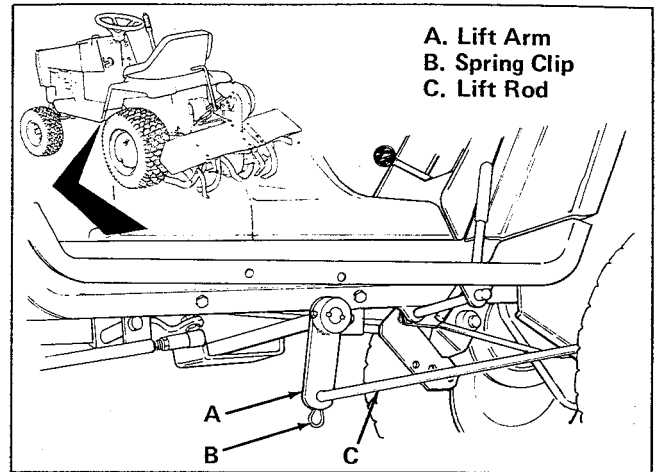
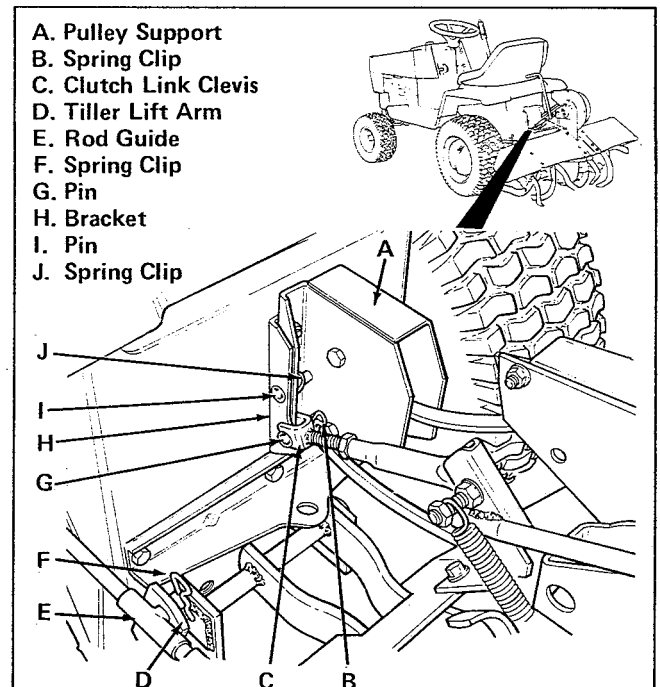

Figure 2. Attach Lift Rod to Tractor
Figure 3. Attach Parts at Rear of Tractor
5. Insert curved end of lift rod (item C, figure 2) through hole in tractor lift arm (item A). Then install spring clip (item B) through hole in end of lift rod.
6. Insert rod guide (item E, figure 3) through hole in tiller lift arm (item D). Install spring clip (item F) through hole in rod guide.
3. Remove spring clips (items B and J, figure 3) and pins (items G and I) to detach clutch link clevis (item C) and pulley support (item A) from tractor. To prevent loss, install pins and spring clips in removed tiller parts.
4. Remove spring clips (item F, figure 3 and item B, figure 2) to detach lift rod from tractor. Reinstall spring clips in holes of lift rod to prevent loss.
Leave other items, including pulley support bracket (item H, figure 3), installed on tractor.